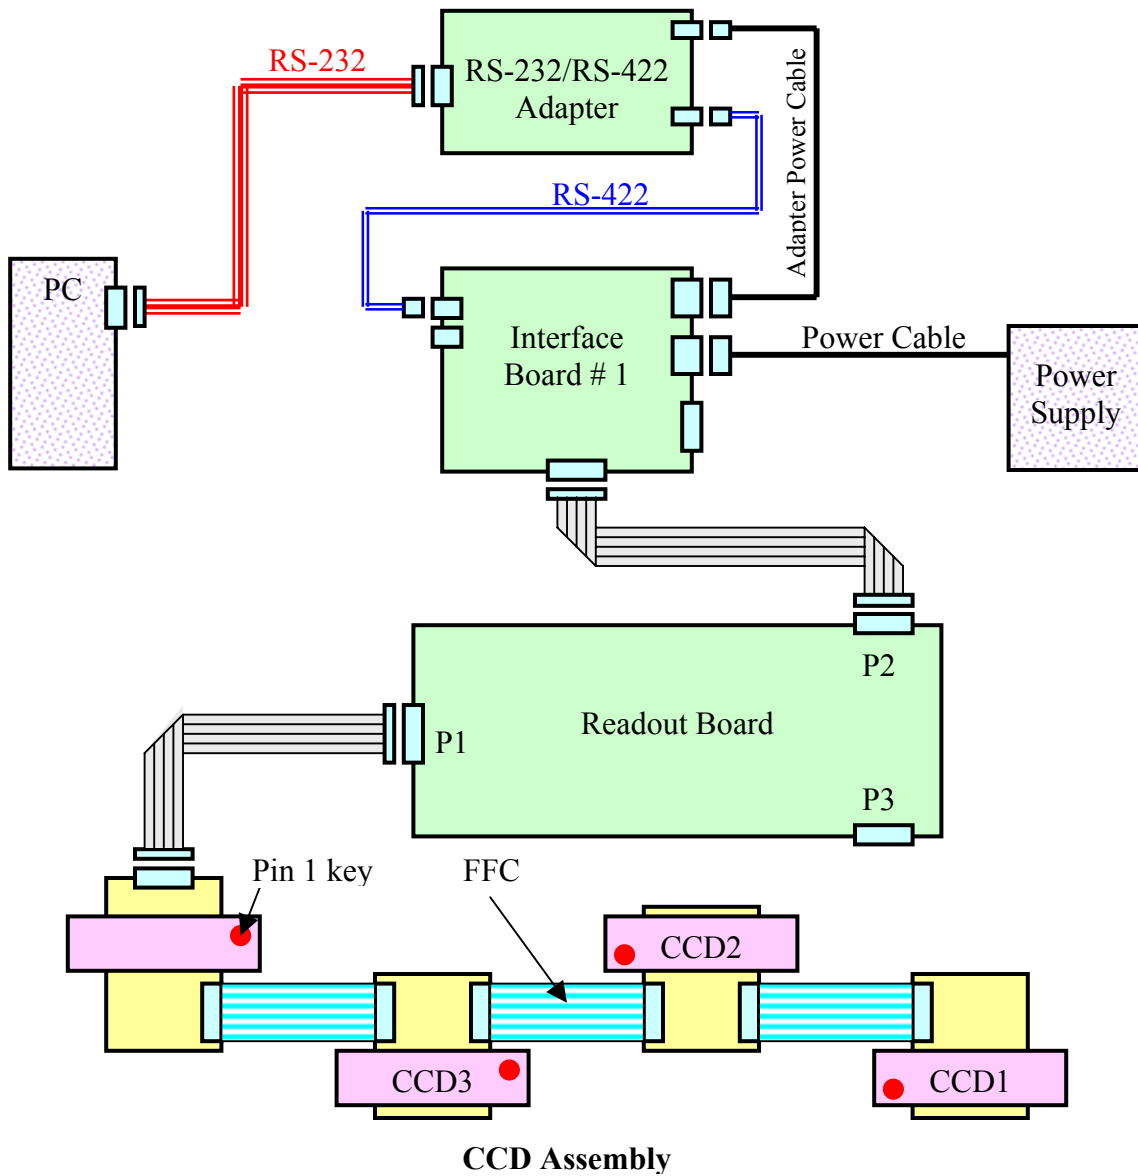

Fig. 1. Diagram of connections
3. Connect printed circuit boards with flat flexible cables (FFC) as shown in Figure 1.
- Connect the readout board under test to the interface board as shown in Fig. 1 and turn on power.